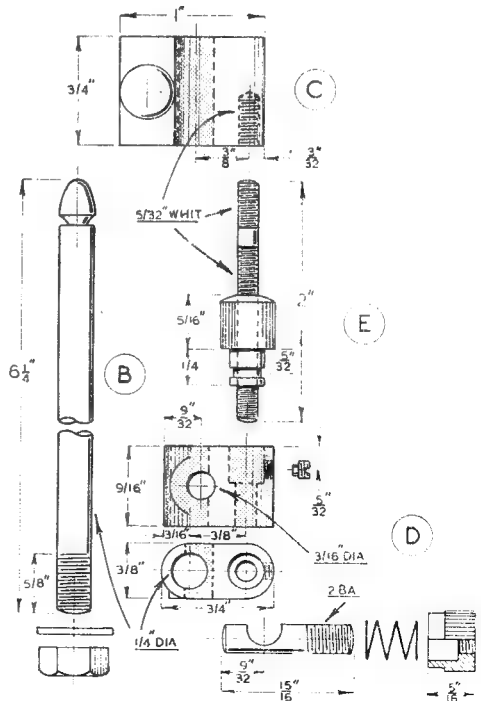

Fig. 5. "B"—the pillar; "C"—the rule clamp; "D"—the fine-adjustment bracket; "E"—the adjusting-screw
The Fine-adjustment Bracket (D), Fig. 5
The Adjusting-screw (E), Fig. 5